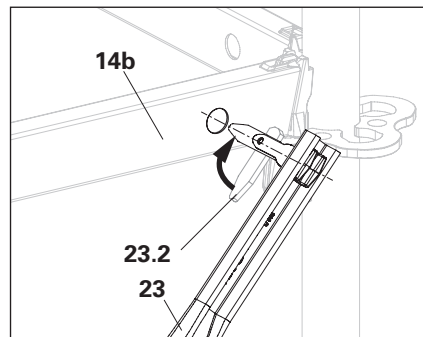

Fig. A4.08c
3. Straighten the tilt finger (**23.2**). (Fig. A4.08c)